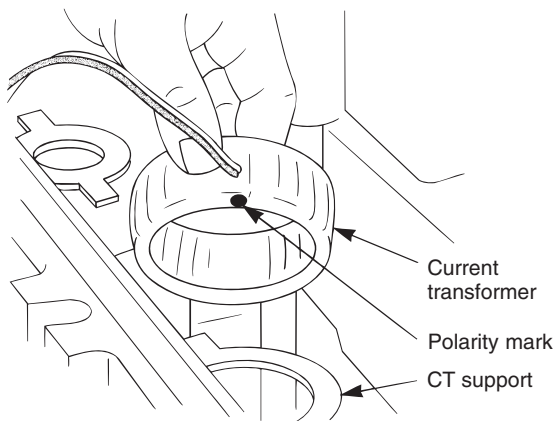

Figure 4. CT installation
9. Place new CT's into position, with the polarity mark toward the head casting, as shown in Figure 4. Position the leads so they are oriented similarly to the leads of the CT removed.